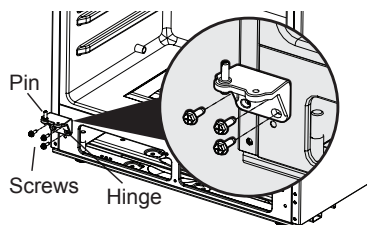

Figure 7
7. Unscrew hinge pin from bottom hinge and transfer to threaded hole on opposite side. (See Figure 7.) Reinstall bottom hinge in left hand corner of cabinet using same three screws removed in Step 6.